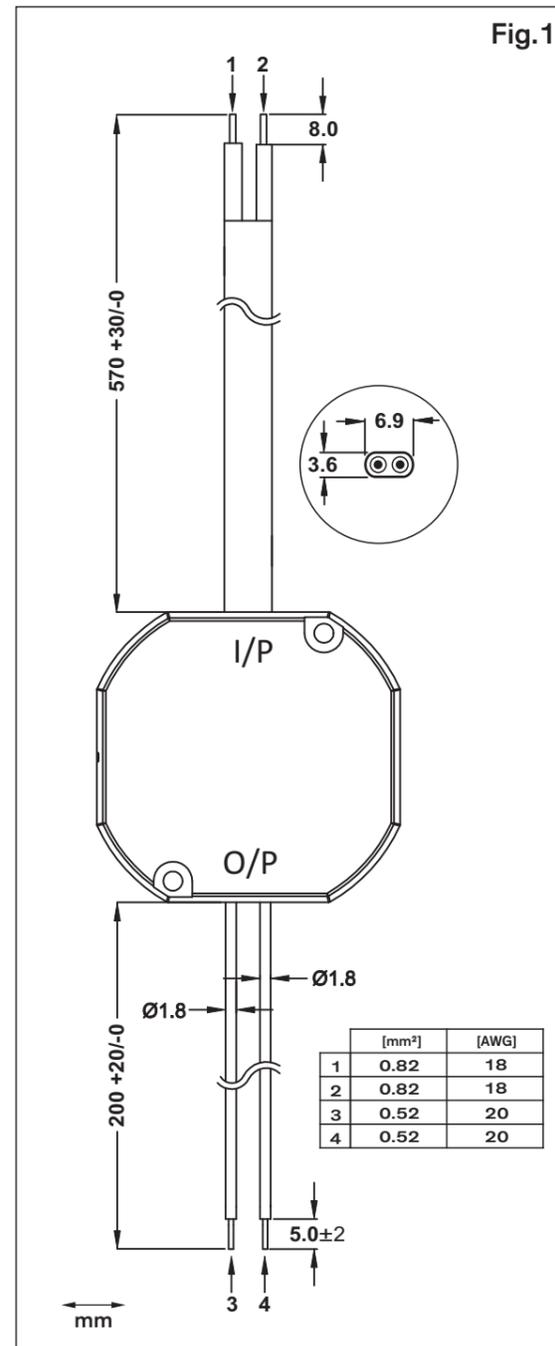

Fig.1
- Описание компонентов Fig.1**
- All input and output wires must be properly rated for the power supply and must be connected with the correct polarity. Fig.1